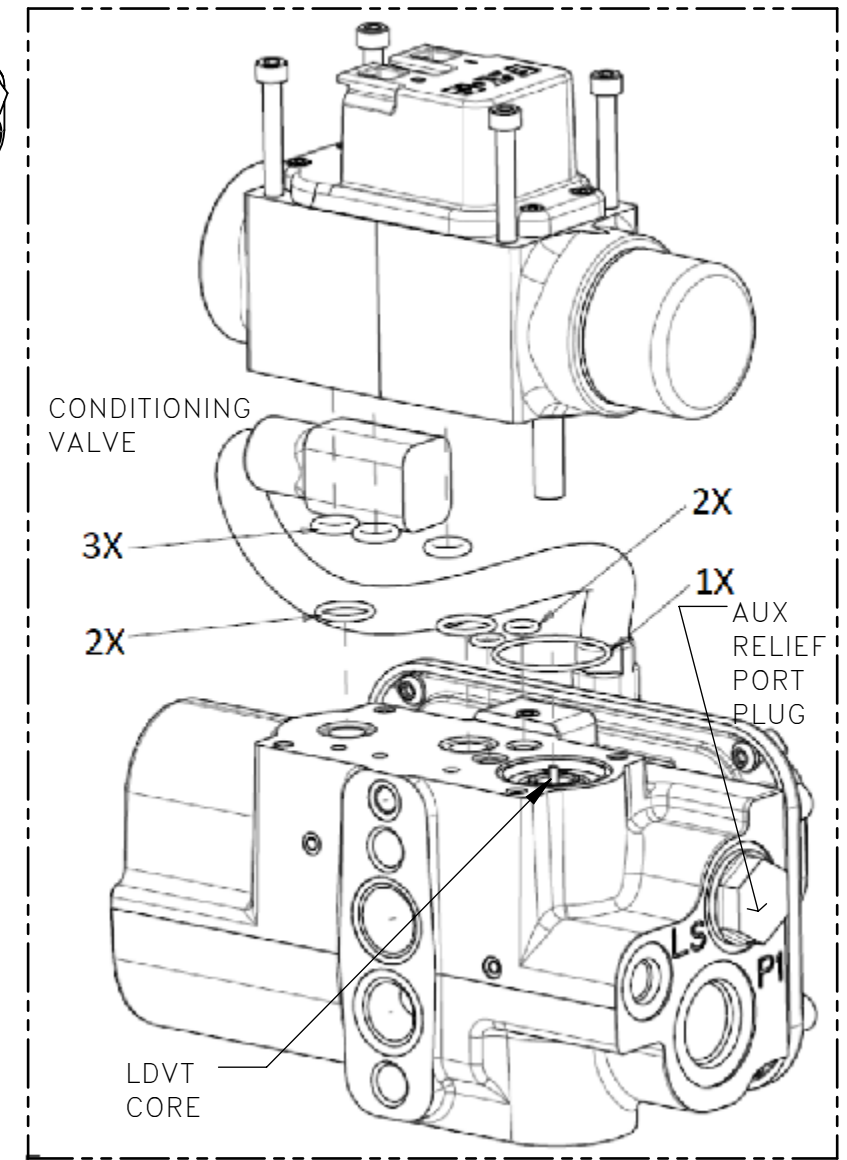

FIG 2.1 CMA90 CV SEALS
12. REMOVE AND DISCARD O-RINGS AND CLEAN THE AREA OF ANY DEBRIS. (SEE FIG 2.1).